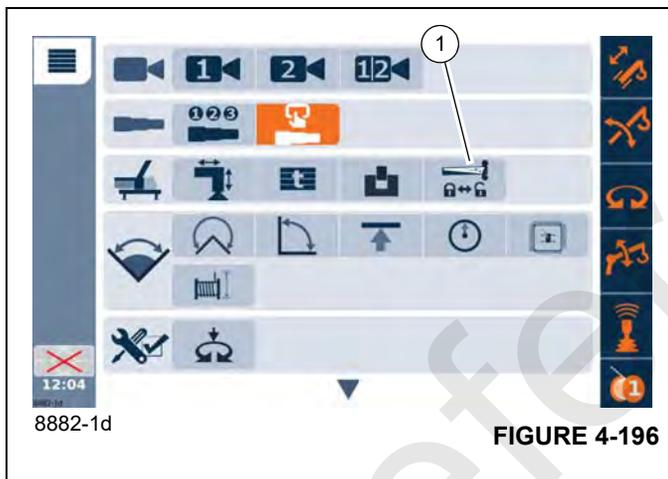

FIGURE 4-196
Select the Boom Extension Deployment/Stowage Icon (1), (Figure 4-196) under the Crane Function Menu Group to show the Boom Extension Deployment/Stowage function screen (also known as the Bi-Fold Boom Extension Icon).